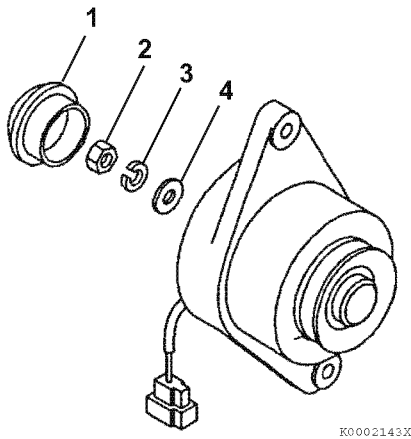

Figure 12-29
5. Reinstall the flat washer (4, **Figure 12-29**), lock washer (3, **Figure 12-29**), and nut (2, **Figure 12-29**). Tighten the nut to the specified torque.
6. Reinstall the rear cap (1, **Figure 12-29**).